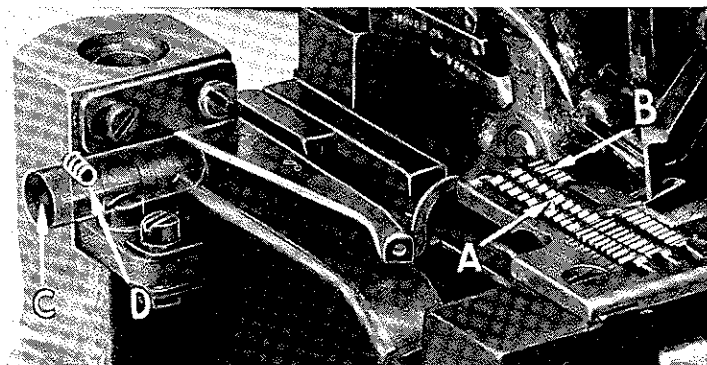

Fig. 12
Assemble chaining feed dog to main feed dog (A, B, Fig. 12). Main feed dog should be levelled with respect to the throat plate by rotating feed tilting adjusting pin (C). This pin raises or lowers the back end of the feed bar.